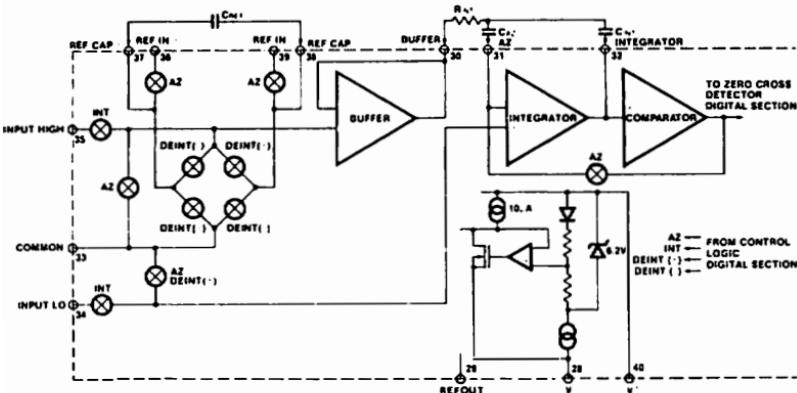
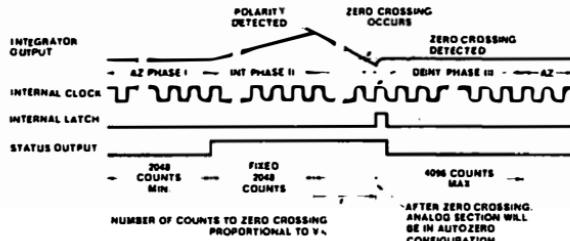

Figure 2: Analog Section
Figure 3: Conversion Timing
Figure 2 shows the equivalent circuit of the Analog Section of the ICL7109. When the RUN/ROLD input is left open or connected to V+, the circuit will perform conversions at a rate determined by the clock frequency (8192 clock periods per cycle). Each measurement cycle is divided into three phases as shown in Figure 3. They are (1) Auto-Zero (AZ), (2) Signal Integrate (INT) and (3) Deintegrate (DE).
During a conversion cycle, the STATUS output goes high at the beginning of Signal Integrate (Phase III), and goes low one-half clock period after new data from the conversion has been stored in the output latches. See Figure 3 for details of this timing. This signal may be used as a "data valid" flag (data never changes while STATUS is low) to drive interrupts, or for monitoring the status of the converter.
When the RUN/HOLD input is connected to V_{cc} or left open (this input has a pullup resistor to ensure a high level when the pin is left open), the circuit will continuously perform conversion cycles, updating the output latches at the end of every Deintegrate (Phase III) portion of the conversion cycle (See Figure 3). In this mode of operation, the conversion cycle will be performed in 6192 clock periods, regardless of the resulting value.